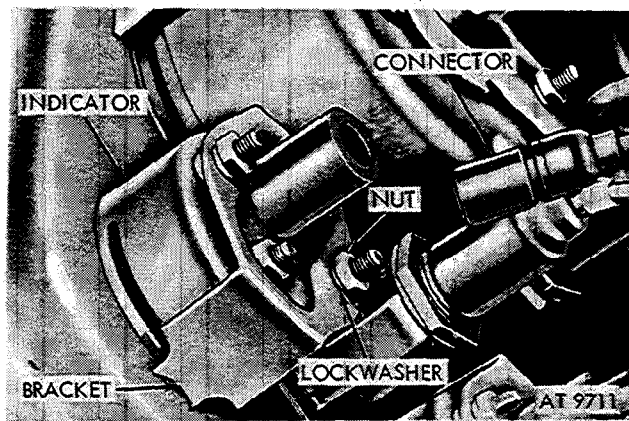

Figure 2-265. Remove battery-generator indicator from bracket.
(1) Remove instrument cluster (para 2-101). Separate connector at generator indicator (fig. 2-265).
(2) Remove two nuts and lockwashers and bracket securing battery-generator indicator (fig. 2-265).